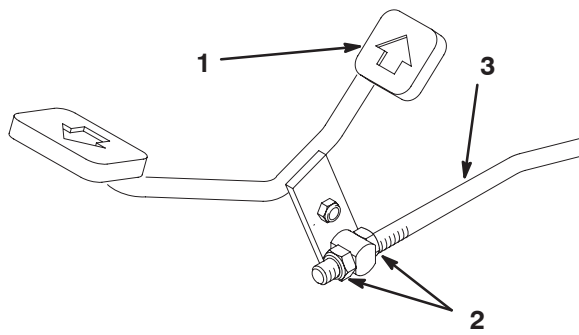

Figure 25
3. Loosen the jam nuts on the control rod (Fig. 25).